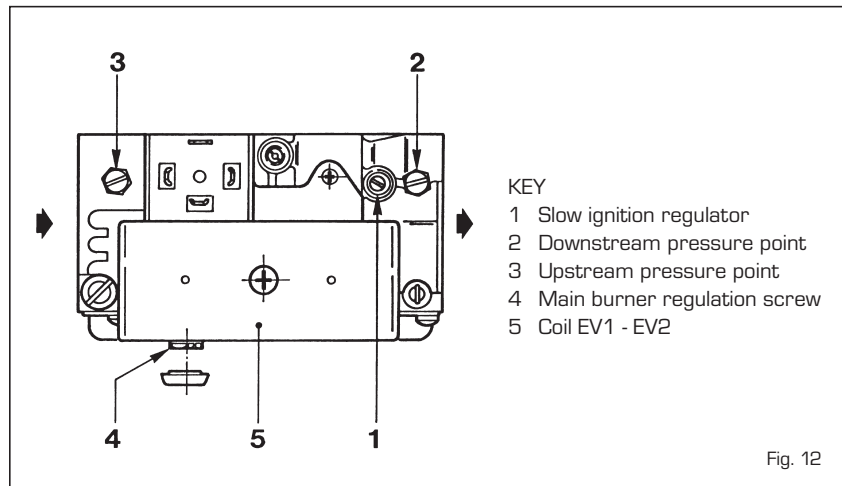

Fig. 12
"20/65 CE IONO" boilers are supplied with a SIT 830 TANDEM gas valve (fig. 12). The first time the boiler is switched on, the pipes should be completely cleared by means of the pressure point (3). To adjust the gas pressure to the main burner, remove the cap fitted on the pressure regulator (4). The pressure can be adjusted by means of the screw under the cap: turn clockwise to increase pressure, and anticlockwise to decrease pressure. The valve can regulate slow ignition of the burner, by means of the screw (1). To increase slow ignition pressure (STEP) turn the screw anticlockwise; to decrease slow ignition pressure turn it clockwise. The optimal values for slow ignition of the burner depend on the type of gas:
- For versions "20/65 CE IONO - 35/80 CE IONO", remove the cap on the pressure regulator and completely unscrew the pressure adjustment screw (4 fig. 12 and 5 fig. 15). Then adjust the entry pressure of the gas valve to 30/37 mbar, depending on the type of gas, by means of the pressure reducer outside the boiler.